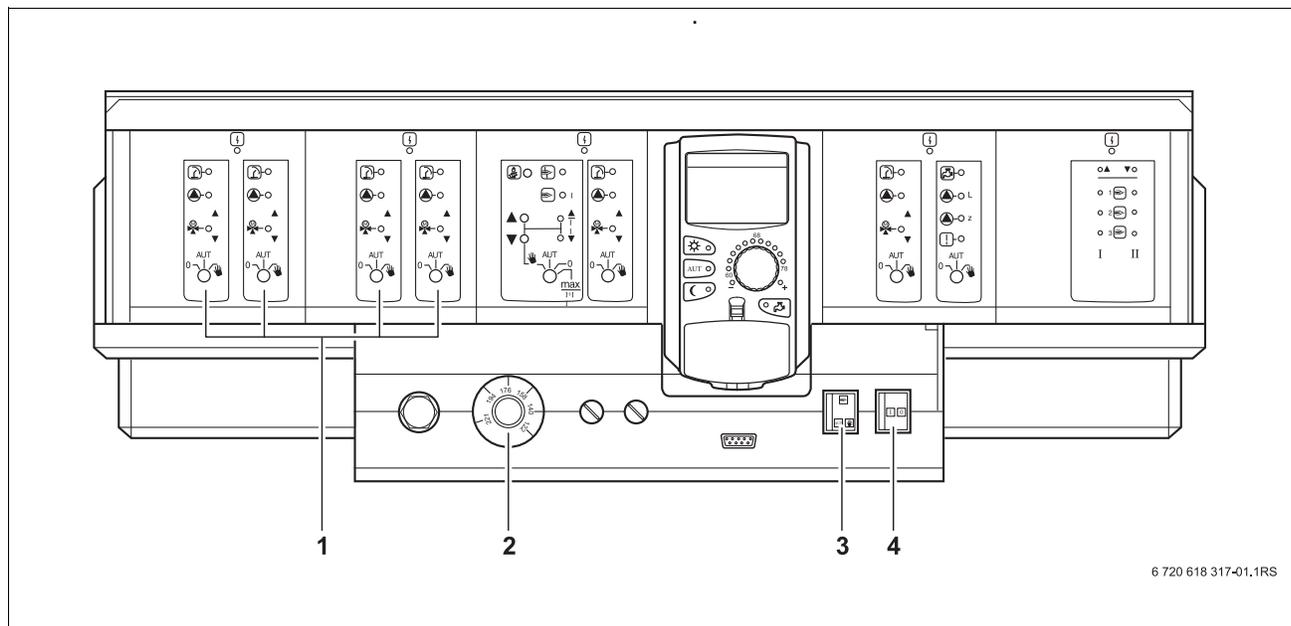

Fig. 26 Heating mode with manual switch
- To safeguard DHW heating in the event of a fault, set the manual module switches (→ Fig 26) to .
- Set the boiler water thermostat (→ Fig 26) to 140 °F – 194 °F (60 °C – 90 °C), for DHW heating to 140 °F (60 °C).